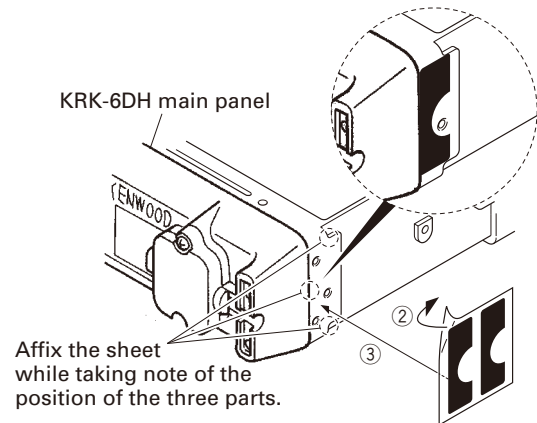

Fig. 2-1-2
4. Affixing the sheet (G11-4379-04) for waterproofing (Fig. 2-1-2).
- (1) Remove the cover paper of the sheet (②).
- (2) Affix the sheet while taking note of the position of the three parts as shown in Fig.2-1-2 (③).